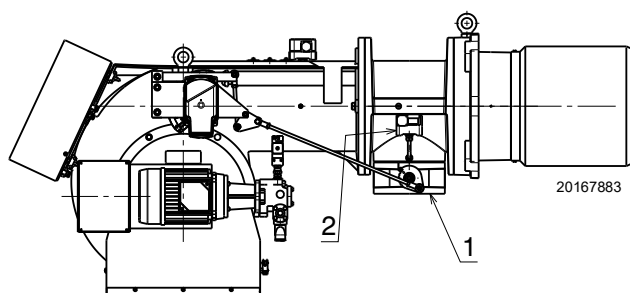

Fig. 24
Gas pressure measured at test point 2)(Fig. 24), with:
Pressure drop at gas butterfly valve 1)(Fig. 24) with maximum opening: 90°.
- subtract the combustion chamber pressure from the gas pressure measured at test point 2)(Fig. 24).
To calculate the required gas pressure at test point 2)(Fig. 24), set the maximum modulating output required from the burner operation:
- Read, on the right (column 1), the pressure at the test point 2)(Fig. 24).
pressure required at test point 2)(Fig. 24).